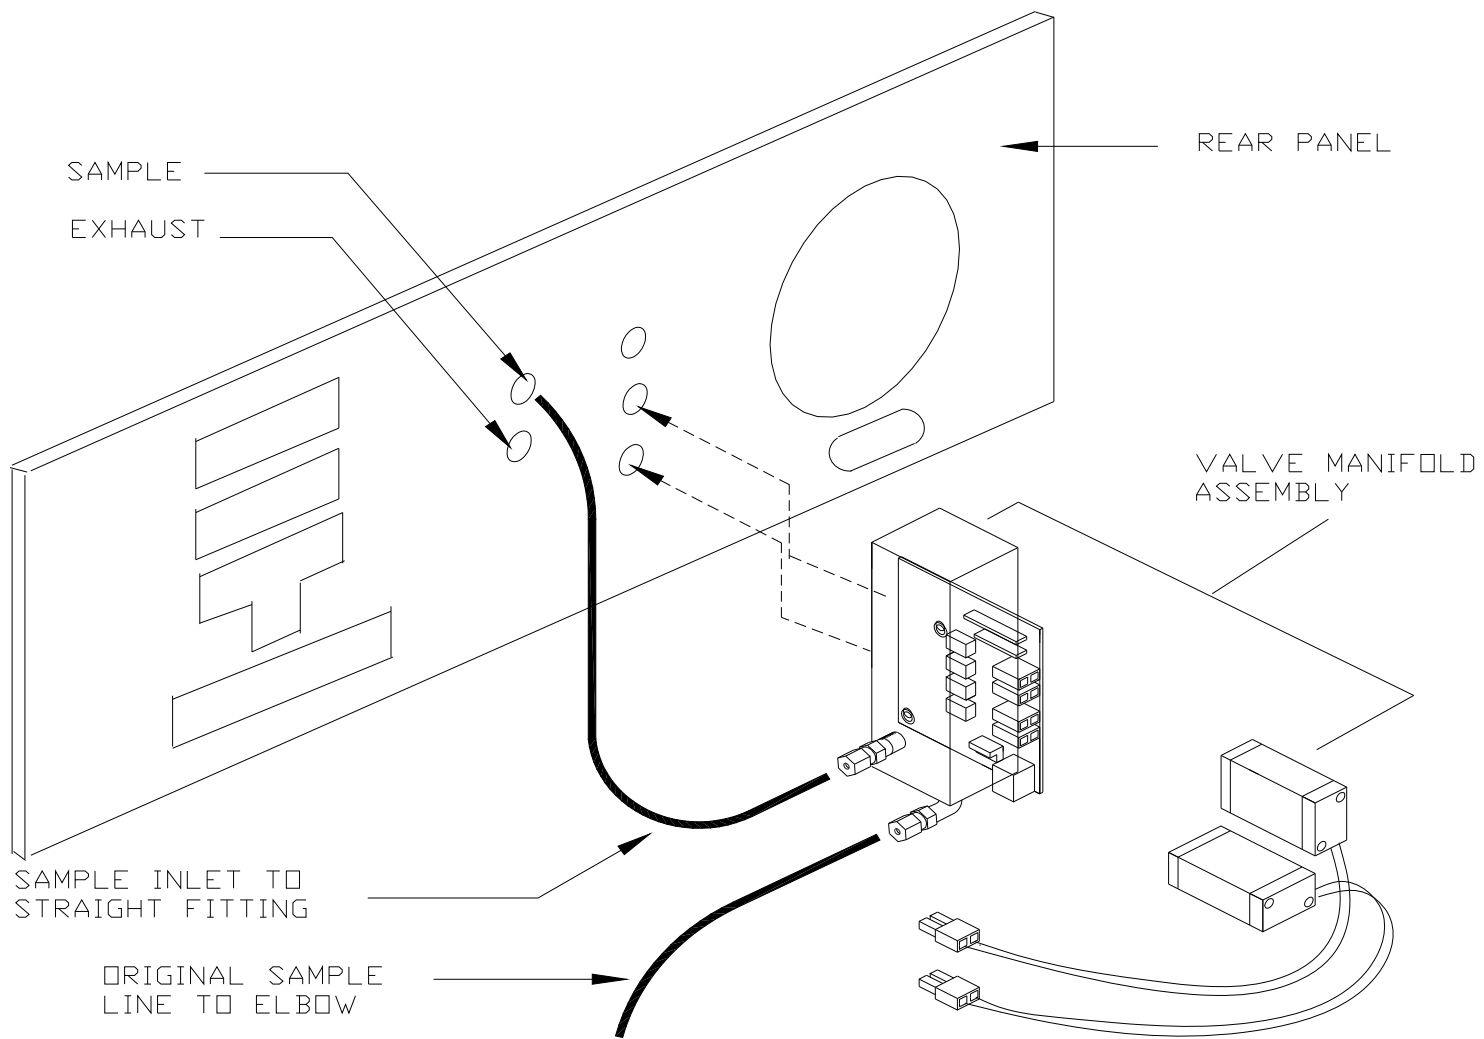

FIGURE 1
2. Take the valve manifold/PCA assembly and mount it on the rear panel with two #8 3/8" screws. Remove the 1/4" tubing from the inside portion of the Sample Inlet fitting and connect it to the elbow fitting on the Valve Manifold. Take the 1/4" piece of tubing coming from the straight 1/4" fitting and connect it to the sample inlet fitting. (See Figure 1)